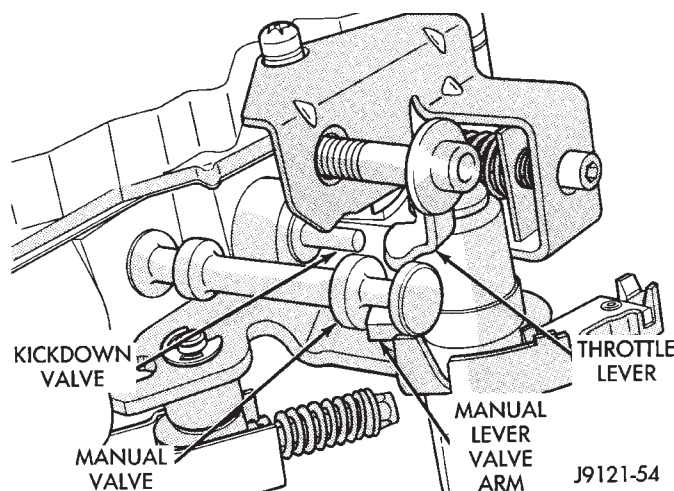

Fig. 127 Manual And Throttle Lever Alignment (42RH)
(8) Align manual lever with detent ball and manual valve. Hold throttle lever upward. Then press down on manual lever until fully seated. Remove detent ball retainer tool after lever is seated.
(9) Then Install manual lever seal, washer and E-clip.
(10) Lubricate solenoid case connector O-rings and shaft of manual lever with light coat of petroleum jelly.
(11) Verify that throttle lever is aligned with end of kickdown valve stem and that manual lever arm is engaged in manual valve (Fig. 127).
(12) Install boost valve, valve spring, retainer and cover plate. Tighten cover plate screws to 4 N·m (35 in. lbs.) torque.
(13) Obtain new fluid filter for valve body but do not install filter at this time.
(14) If line pressure and/or throttle pressure adjustment screw settings were not disturbed, continue with overhaul or reassembly. However, if adjustment screw settings **were** moved or changed, readjust as described in Valve Body Control Pressure Adjustment procedure.